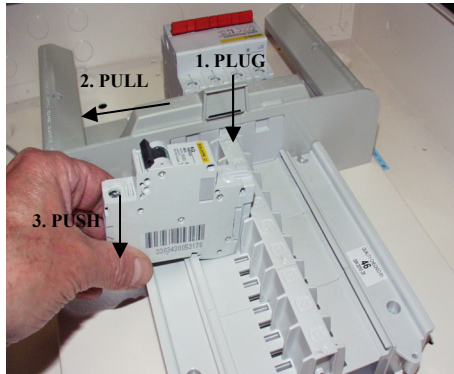

Fig 11
- Identify the desired outgoing way and position the device over the busbar stack. The device is located correctly when each of the poles are located between the guiding ribs on top of the busbar moulding (Fig 11).
- Once the correct position has been identified, with the DIN clip closed, plug in the device following the steps indicated in figure 11. Please observe and follow 1.PLUG, 2.PULL, 3.PUSH for the fastest and most convenient installation.(Fig 11).